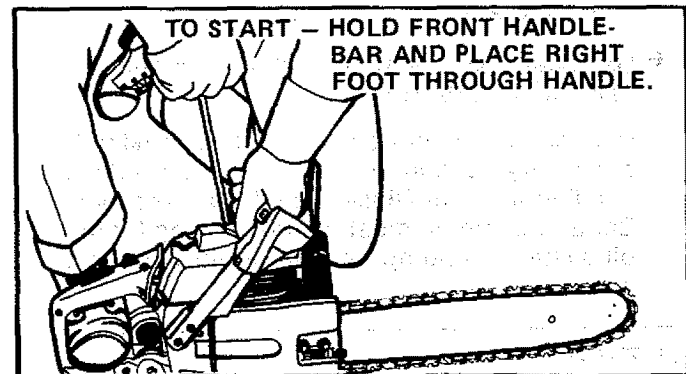

Figure 14
- c. Hold saw firmly with the saw chain free to turn without contacting any object. Figure 14.